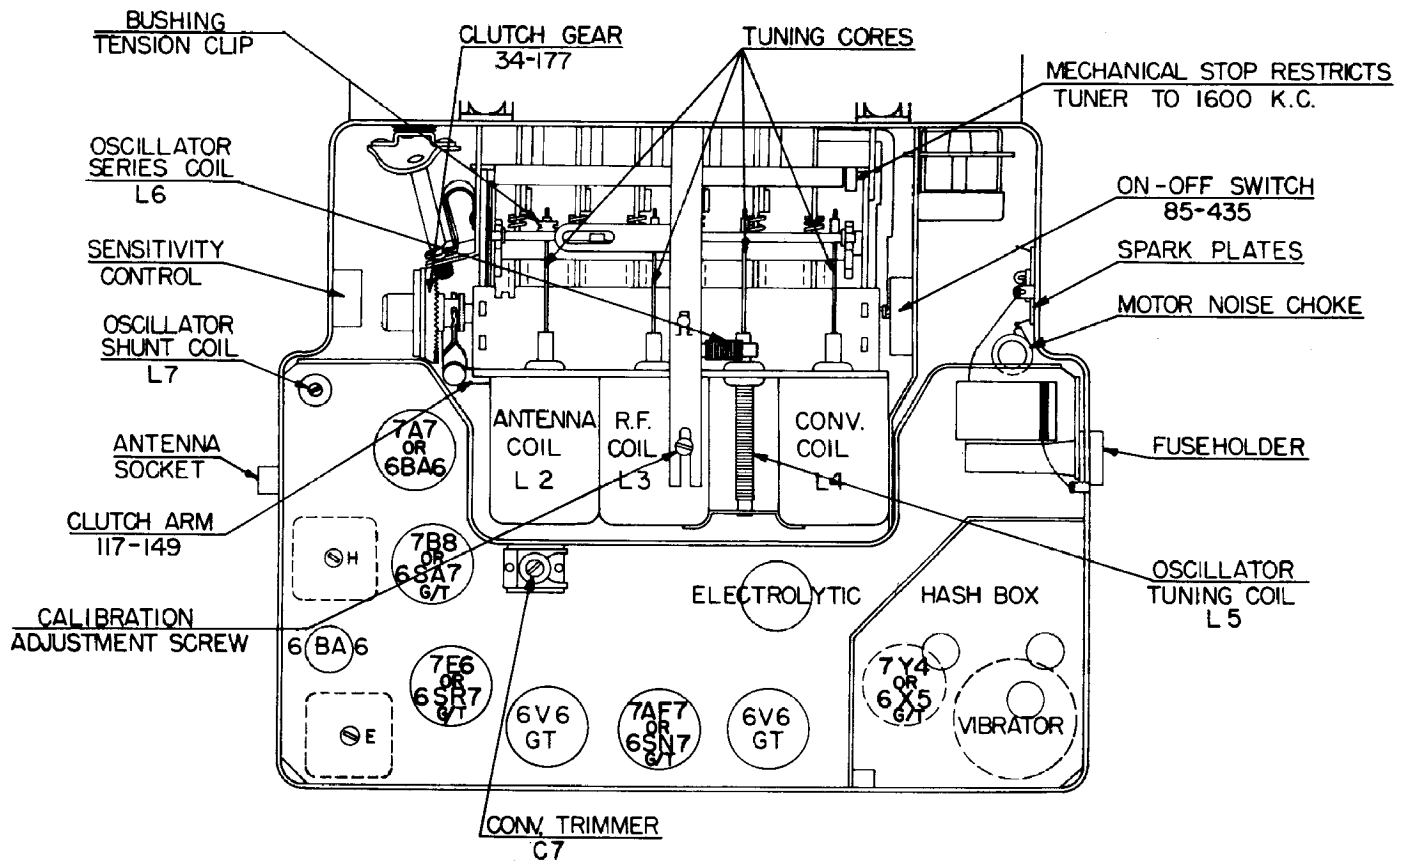
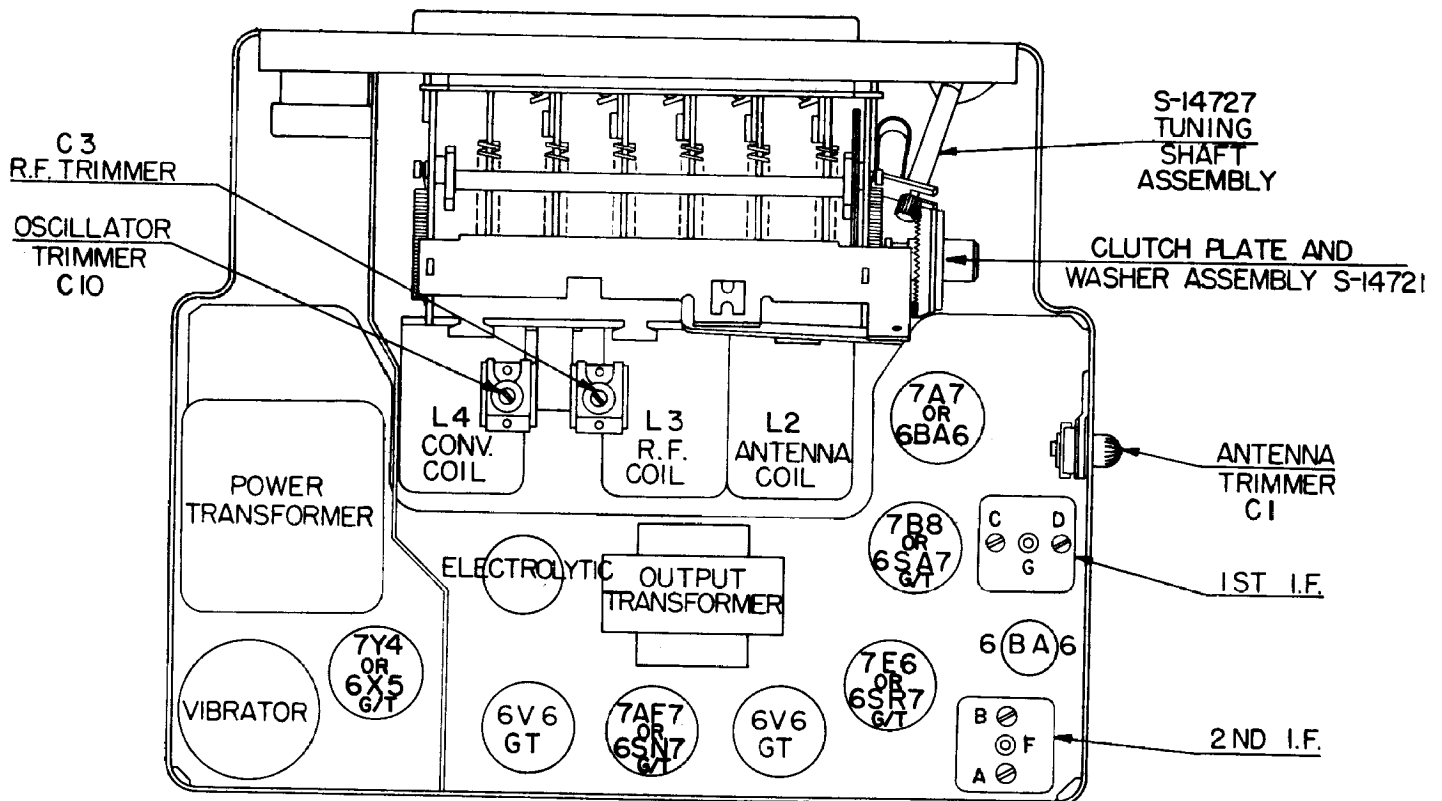

Fig. 7. Top View
Fig. 8. Bottom View
4. Adjust I.F. trimmers A, B, C, and D in order named for maximum output. (Fig. 8.) Some units have I.F. transformers that are slug tuned. In this case adjust I.F. slugs E, F, G, and H in order named. Repeat the operation to assure accurate alignment. (Figs. 7 and 8.)
4. Adjust oscillator trimmer C-10 (Fig. 8), for maximum response.
7. Adjust converter trimmer C-7, R.F., trimmer C3 and antenna trimmer C-1 (Fig. 8) for maximum response (Figs. 7 and 8).
8. If dial calibration is off after making above adjustments, a correction can be made by tuning eccentric screw at fulcrum of dial pointer. (Fig. 7.)
5. Adjust the oscillator trimmer C-10 (Fig. 8) at 1675 Kc.
6. Adjust the converter trimmer C-7, R.F. trimmer C3, and antenna trimmer C-1 (Figs. 7 and 8) for maximum output reading.
9. Adjust the oscillator core L-5 (Fig. 7) to scale at 1300 Kc.
10. Adjust the antenna core L-2, R.F. core L3, and converter core L-4 (Fig. 7) for maximum output reading.
12. "Rock in" shunt oscillator coil L-7 (Fig. 7) for maximum output reading. This should be done only as a last resort. This is the same as rocking in the padder condenser on a gang condenser receiver.